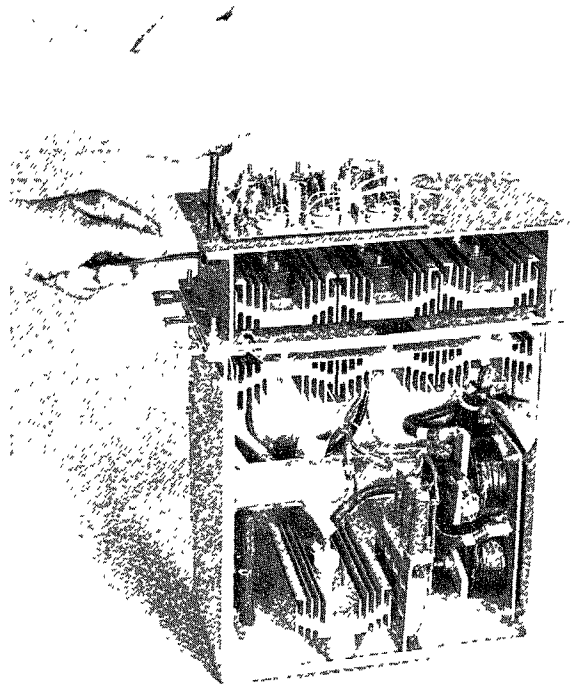

FIGURE 13
4. Remove 4 machine screws and nuts that secure the front red plastic insulation cover to the converter module. See Fig. 13